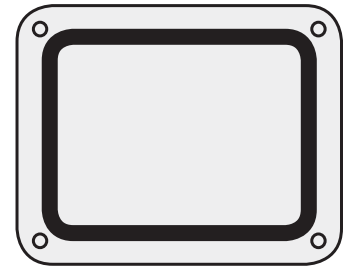

FIG. 4
- a. Apply to the Fan Housing outlet. Make sure to apply it inside of the bolt holes [FIG. 4].